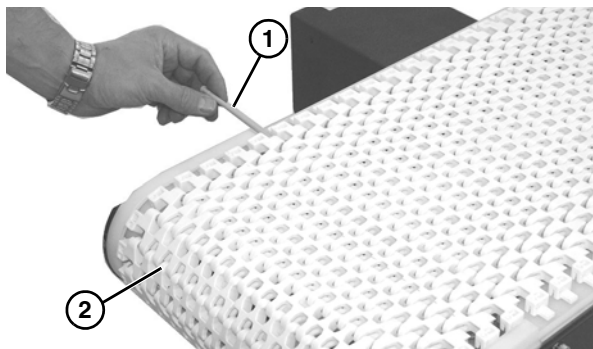

Figure 31
1. Use a punch and hammer to push the belt rod (Figure 31, item 1) out by striking the rod end opposite the retaining head.
2. Slide the old belt (Figure 31, item 2) off the conveyor frame.